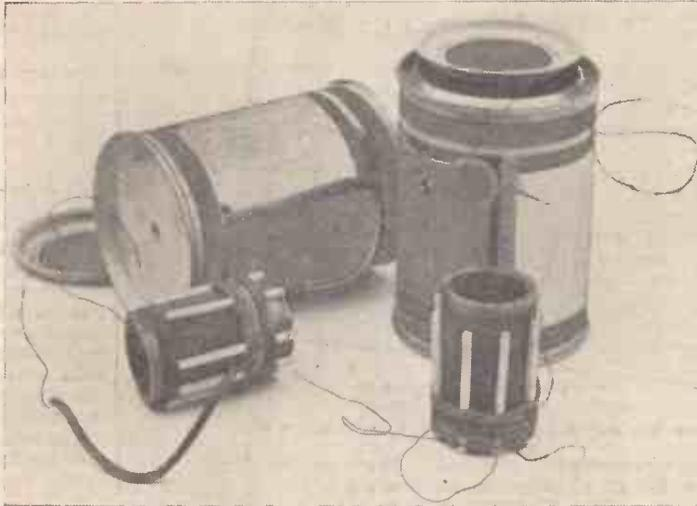

Fig. 1.—A home-made form of screened coil.
**N**OW, although shop-bought coils are so satisfactory and reliable, and are almost a necessity if ganged circuits are to be used, there are numerous applications in which home-wound coils will prove in every way satisfactory. With care in making, these amateur efforts can even be satisfactorily ganged, and a friend of mine has been successful in obtaining really good results from a pair of home-made band-pass coils, screened in ordinary half-pound tins, normally accommodating a well-known proprietary article. Readers will be able to see for themselves what these look like by referring to Fig. 1.